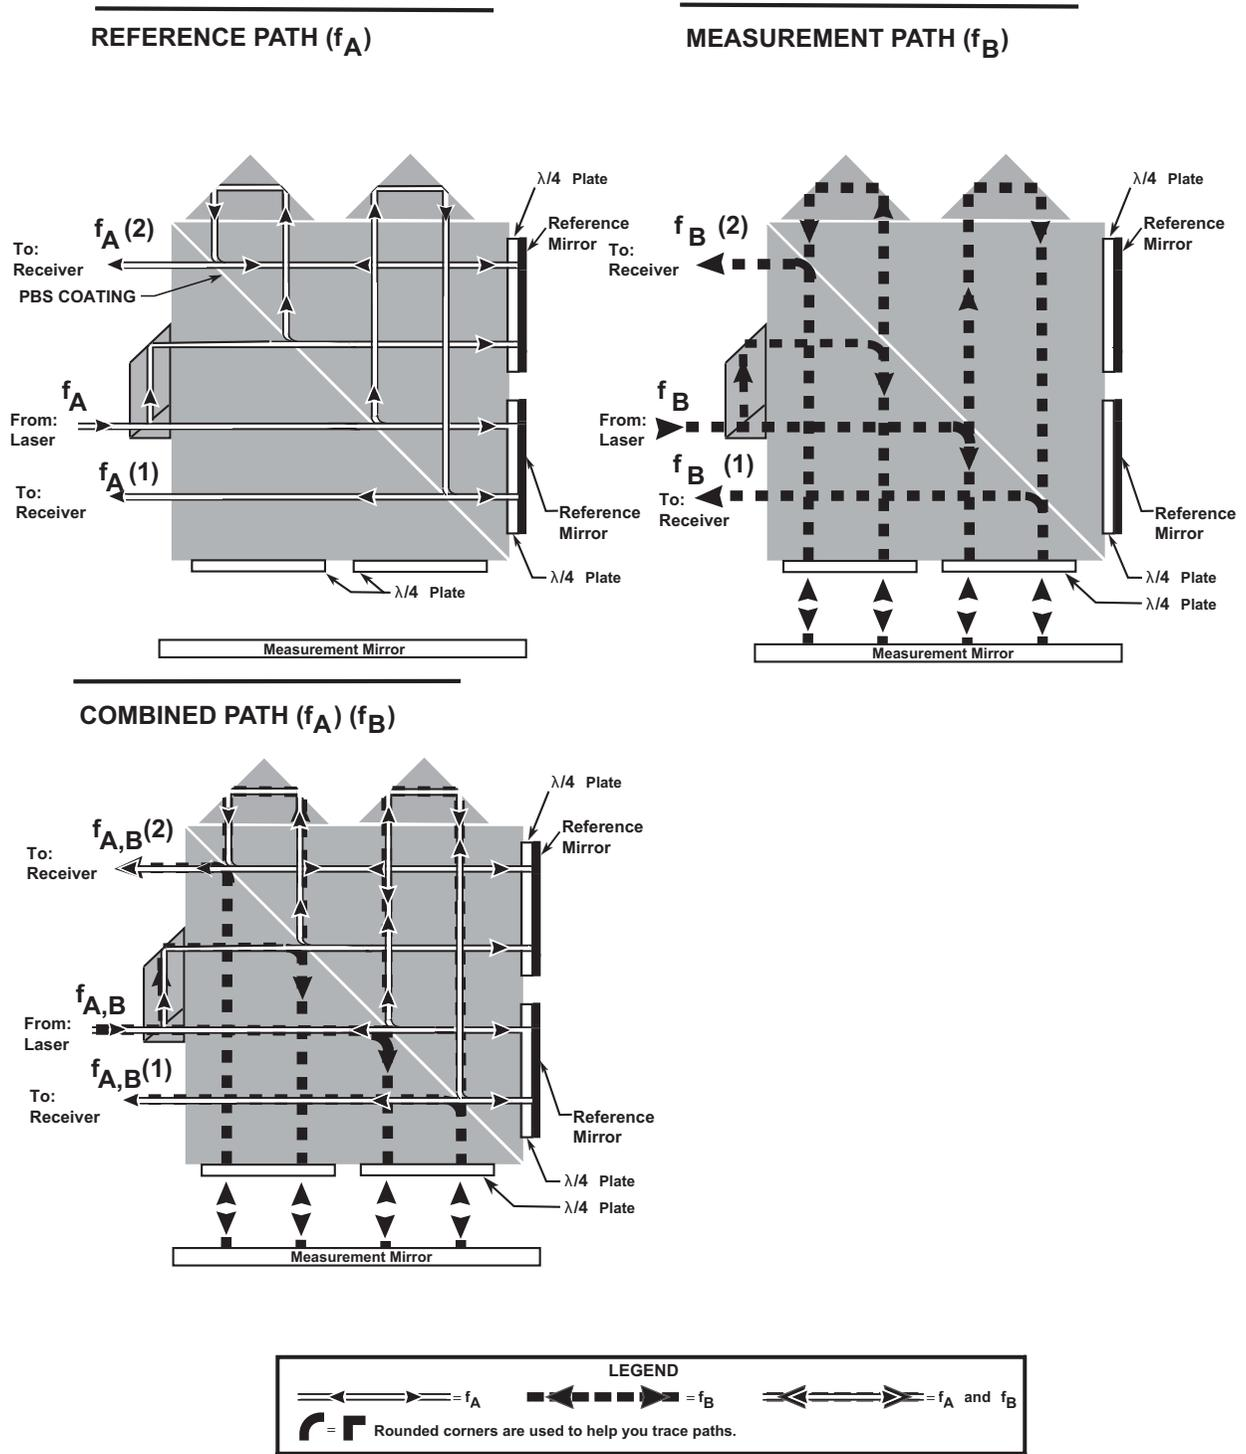

Figure 36 Next Generation Interferometer laser beam path
- an optical schematic of the Agilent NGI (Figure 36)